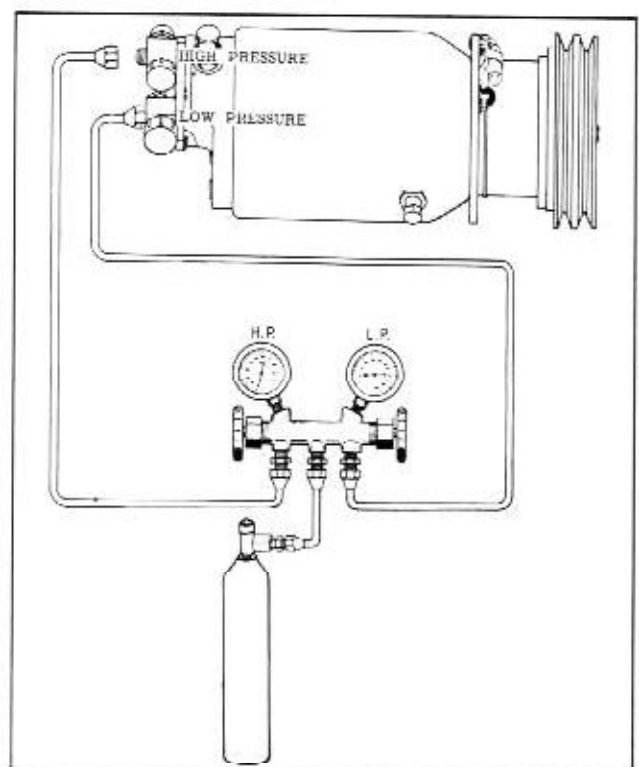

Fig. 14-36 Evacuating the System
13. Connect gauge set as shown in Fig. 14-36. Be sure the compressor hand shut-off valve caps are installed after the gauge set is connected.